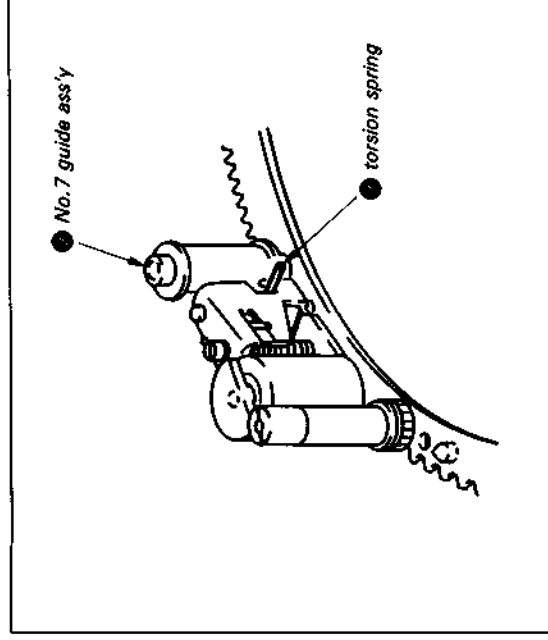

Fig. 7-15.
- 3) Change the position of the torsion spring ● on No. 7 guide assembly ●. (See Fig. 7-15.)